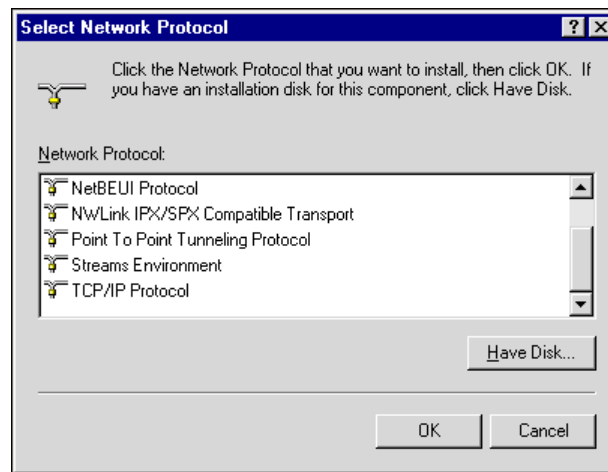

Figure 7. Select Network Protocol Dialog
- e. If TCP/IP is not on the list of installed protocols, click Add. The Select Network Protocol dialog opens (Figure 7).